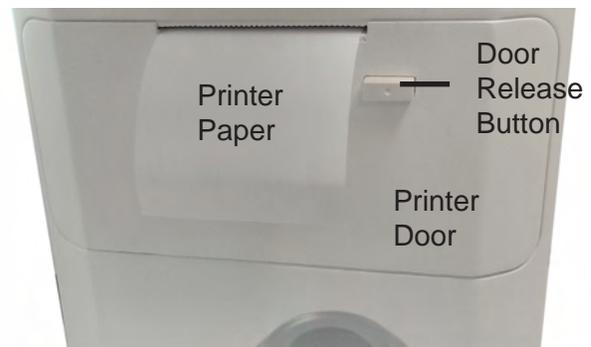

Figure OP-3. Printer Paper Installation
1. Press the Door Release button to open the Printer door. Refer to Figure OP-3.